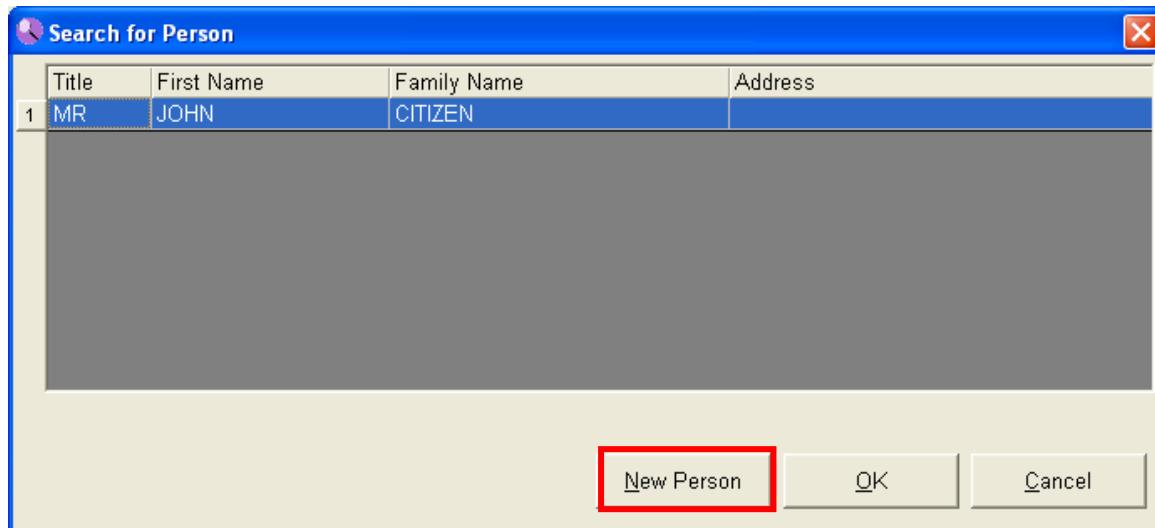

Figure 81
5. You will need to firstly select a customer to assign the Lay-By to. Type the customer name into the 'Customer' field. If the customer does not exist you can create a customer by clicking on the 'New Person' button (see Figure 81).